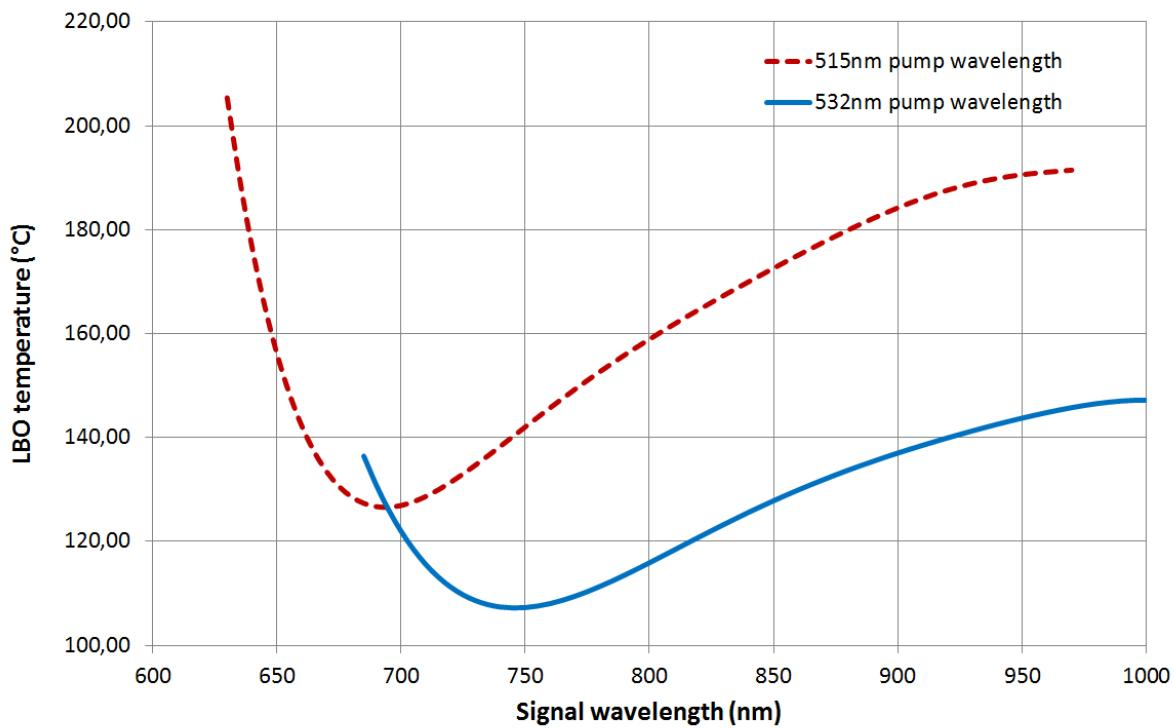

Figure 6.2.: Temperature phase-matching curves of the OPO crystal for two different pump wavelengths.
- The crystal phase-matching temperature is set to the calibrated value for the desired signal wavelength based on a calibrated curve as shown in figure 6.2.